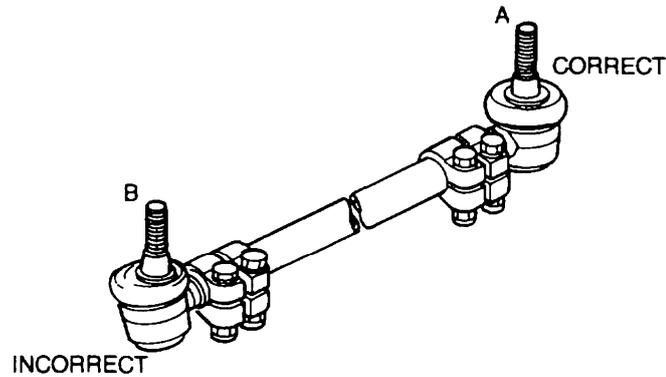

Figure 164 Tie Rod End Installation
When adjusting or renewing a tie rod it is important that the ball joints are assembled in the same angular plane and that the ball joint pins are central in their respective housings (A). Premature wear could result if the pins are inclined to one side (B) (Figure 164).